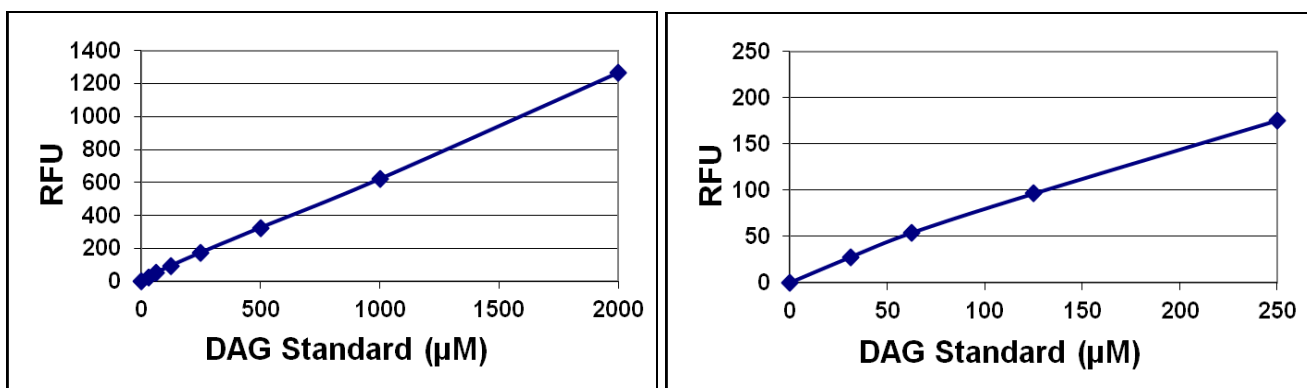

Figure 1: DAG Assay Standard Curve. DAG standard curve was performed according to the Assay Protocol. Background has been subtracted.
3. Graph the standard curve (see Figure 1).